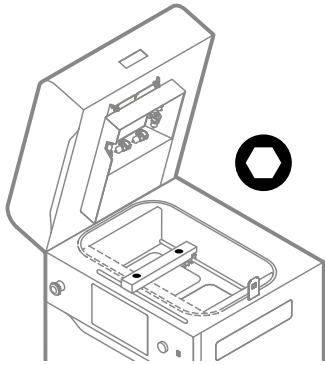

Fig. 10.3 Set the Recoater and remove the screws from the Recoater cover.
7. Using a 2 [mm] allen key, unscrew both screws on the Recoater cover and take it off (fig. 10.3).